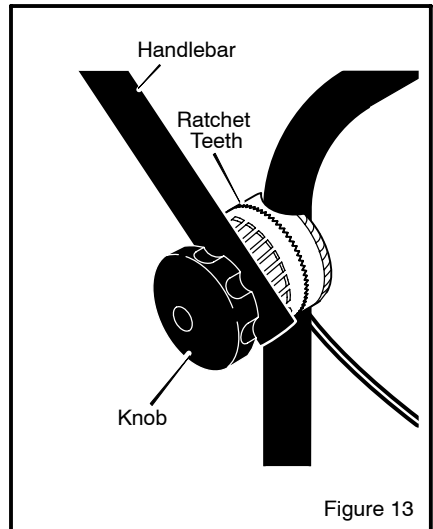

Figure 13
1. Hold the **handlebar** with one hand and loosen both **knobs** until the **ratchet teeth** are disengaged. Do not remove the **knobs**. See Figure 13.